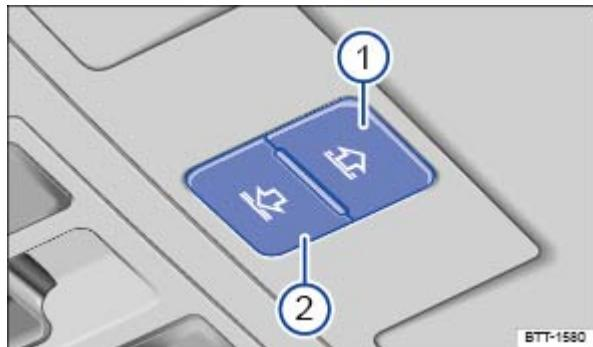

Fig. 100 In the roof console: Buttons for the power sunshade.
The buttons ⇒ Fig. 100① and ⇒ Fig. 100② have two detents.